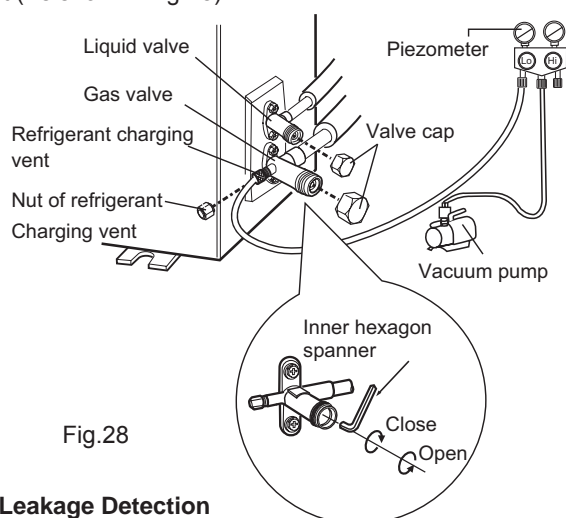

Fig.28
- (1) Remove the valve caps on the liquid valve and gas valve and the nut of refrigerant charging vent.
- (2) Connect the charging hose of piezometer to the refrigerant charging vent of gas valve and then connect the other charging hose to the vacuum pump.
- (3) Open the piezometer completely and operate for 10-15min to check if the pressure of piezometer remains in -14.5ISP.
- (4) Close the vacuum pump and maintain this status for 1-2min to check if the pressure of piezometer remains in -14.5ISP. If the pressure decreases, there may be leakage.
- (5) Remove the piezometer, open the valve core of liquid valve and gas valve completely with inner hexagon spanner.
- (6) Tighten the screw caps of valves and refrigerant charging vent.(As show in Fig.28)